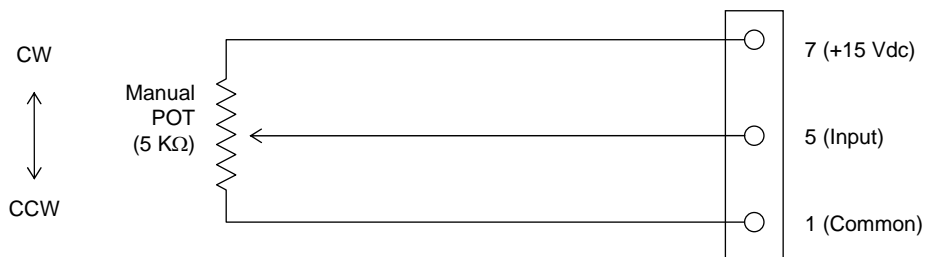

Figure 2-5. Remote Control with a Potentiometer
- _____ 1. With the power to the 1PCI turned off, connect the potentiometer as shown in Figure 2-5. The CW position is the full power output position. Terminal TB1-5 is internally connected to a positive DC voltage source.